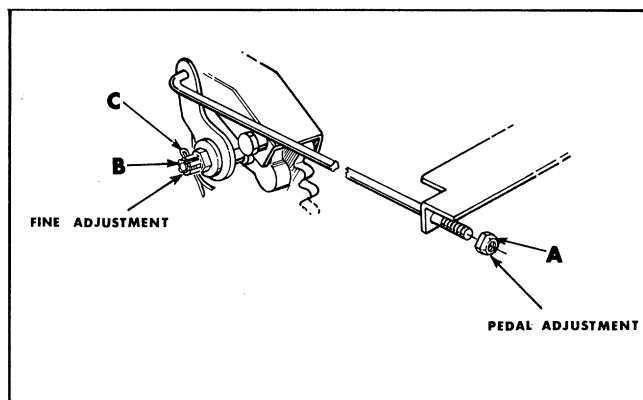

FIG. 12
PEDAL ADJUSTMENT - To take up the adjustment on the brake linkage, tighten or loosen the hex nut (A) on brake linkage. (See Fig. 12).
FINE BRAKE ADJUSTMENT - Remove hair pin (C). Turn the castle nut (B) clockwise to tighten one quarter revolution and check brakes. Repeat as necessary to have proper braking power. Replace hair pin (C). (See Fig. 12).